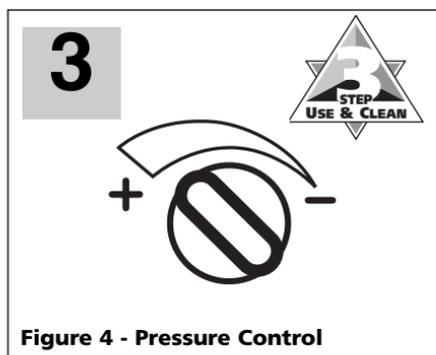

Figure 4 - Pressure Control
1. Test sprayer on practice surface to ensure that paint is coming out in a suitable pattern for your needs. Thin and/or adjust pressure as needed (see Figure 4).